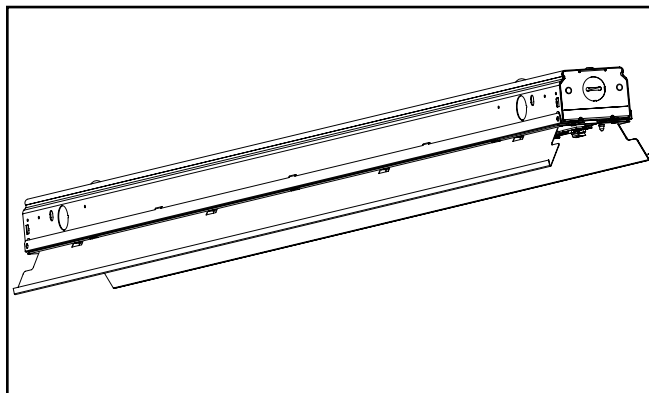

Figure 5.
4. Close the channel cover (Figure 5.)